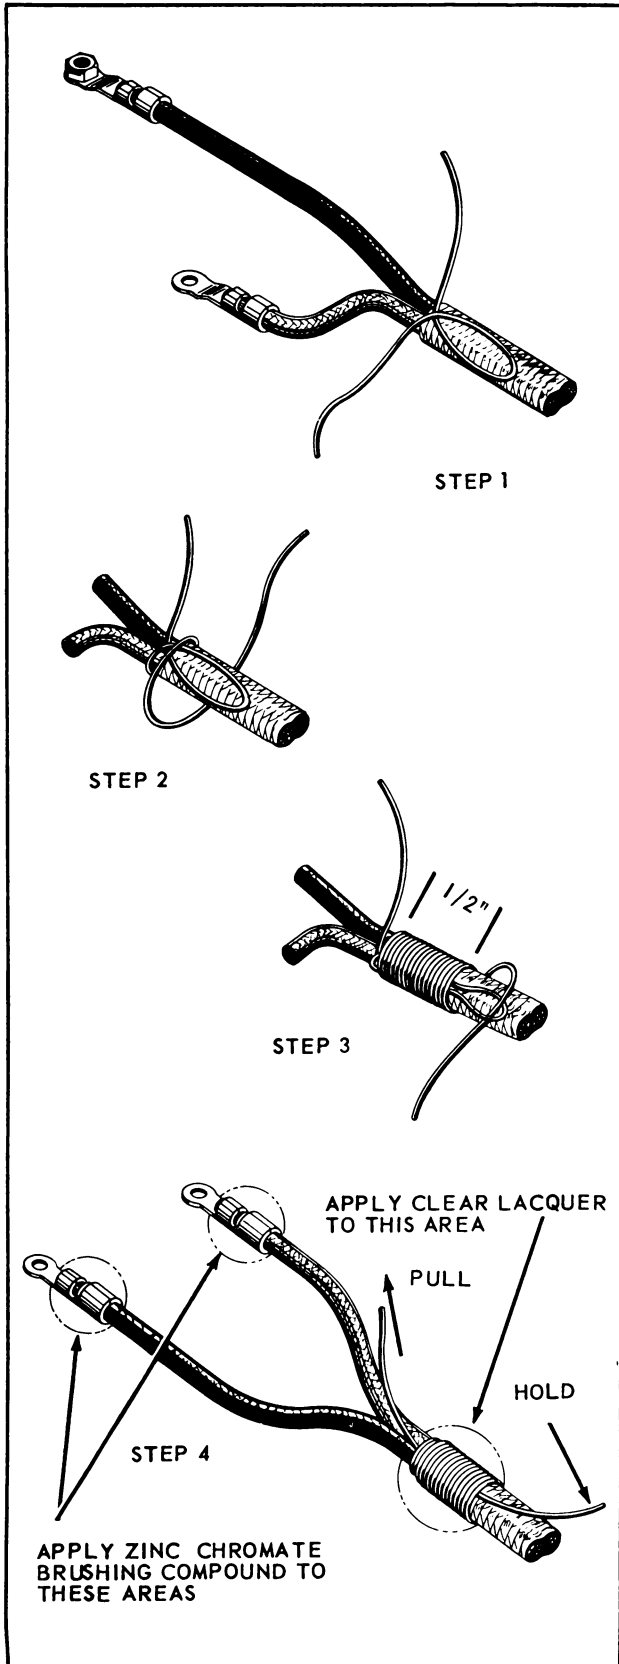

Figure 6-14. Servicing Thermocouple Wire
d. Coat areas indicated in Figure 6-14 with zinc chromate brushing compound.
e. Serve the completed extension lead at branching point as described in paragraph 6-24, and shown in Figure 6-14.
e. Coat areas indicated in Figure 6-14 with zinc chromate brushing compound.